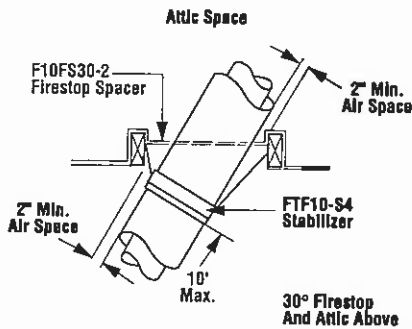

Figure 23
It may be necessary to assemble the chimney at 30° when passing through the floor or ceiling area. Use the F10FS30-2 firestop spacer as shown in Figures 23 and 24. Support the chimney at floor or ceiling penetration with a FTF10 stabilizer if distance of chimney below ceiling is 10' or more. Maintain 2" minimum air space to combustibles from chimney sections.
**Step 1.** Use Offset Chart to determine amount of horizontal offset (A) and height (B) for various chimney section assemblies.
**Step 3.** Use Elevation Chart as job estimator only. Add necessary firestop spacers and stabilizers as required. Firestop spacers must be used as shown in Figures 23 and 24 and stabilizers as shown in Figure 29.